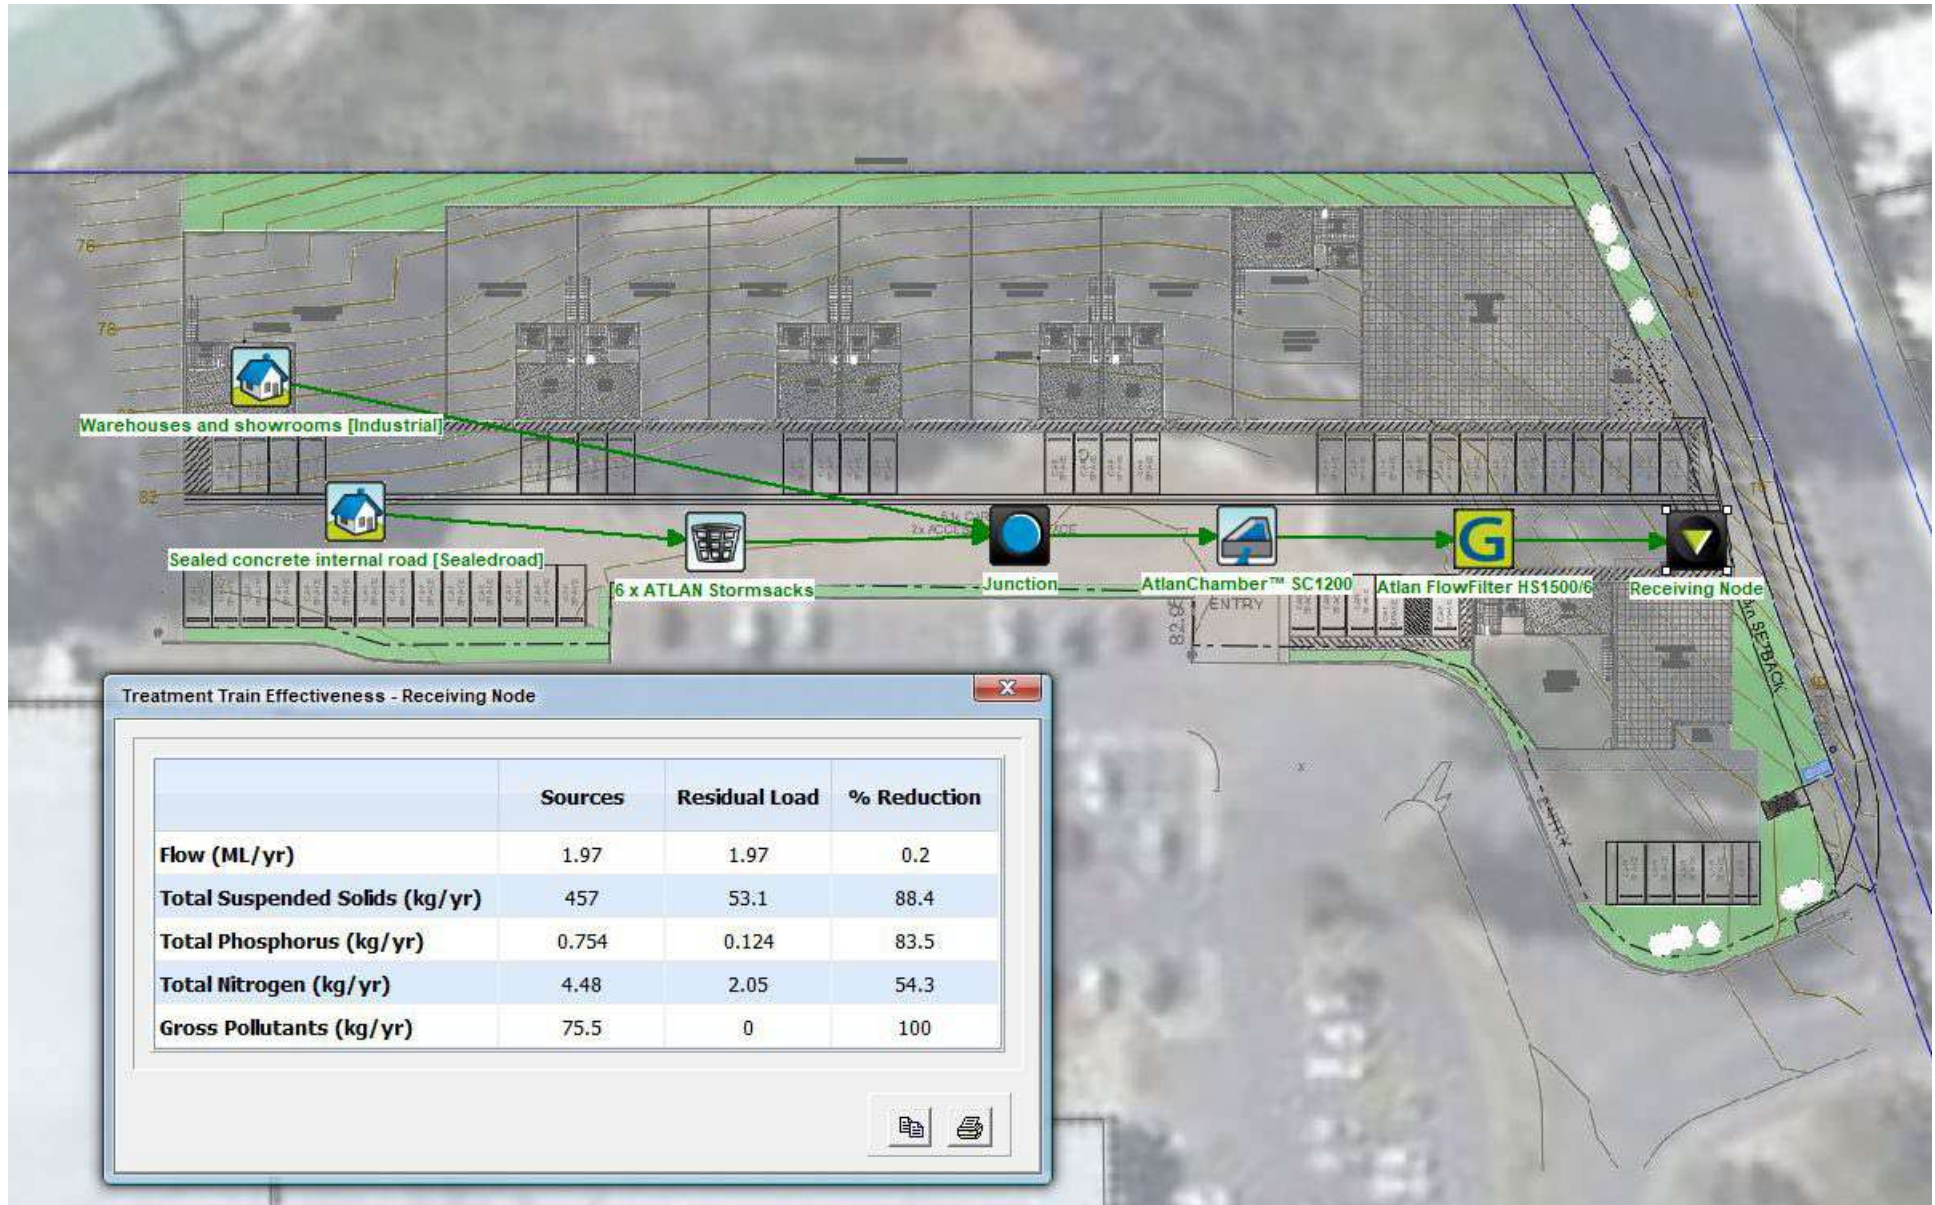

Figure 5. MUSIC Treatment Train Effectiveness Result
The MUSIC pollutant load reductions are detailed in Table below. As can be seen when comparing the MUSIC results to the required state stormwater strategy target load reductions, the specified treatment train outlined above and as seen in Figure 5 show that all targets either meet or exceed state reduction targets.
2. Installation of treatment devices in the order specified in this document (Figure 5), not including individual lot devices.